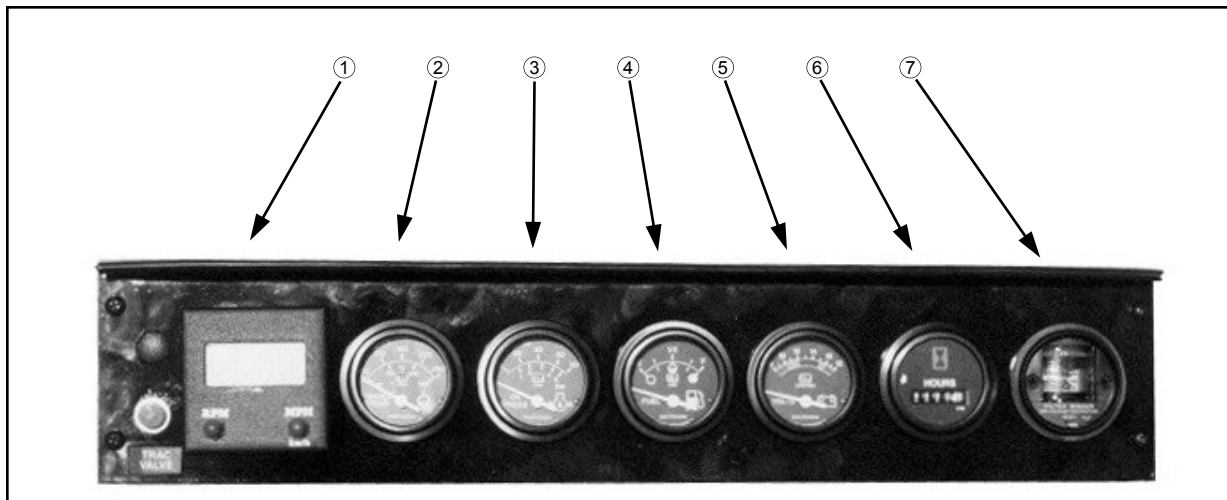

FIG 5.37
Speedometer/Tachometer - (fig. 5.37, item 1)
Water Temperature - (fig. 5.37, item 2) The water temperature gauge monitors the engine cooling system. A "RED" indicator light alerts the operator of unsafe operating temperatures.
Engine Oil Pressure - (fig. 5.37, item 3) The oil pressure gauge monitors pressure of the engine lubricating system. A "RED" indicator light alerts the operator of low level operation.
Fuel Gauge - (fig. 5.37, item 4) The fuel gauge measures the amount of fuel in either fuel tank, depending on the tank selected with the fuel switch. A "YELLOW" indicator light alerts operator of low level operation.
Volt Meter - (fig. 5.37, item 5) The volt meter measures voltage from the alternator on the diesel engine. A "RED" indicator light will alert the operator if the system is operating either too low or too high.
Hour Meter - (fig. 5.37, item 6) The hour meter progressively records elapsed time of detasseler operation. It is useful for determining service intervals.
Filter Minder - (fig. 5.37, item 7) See page 82 for information regarding the air filter monitoring system.